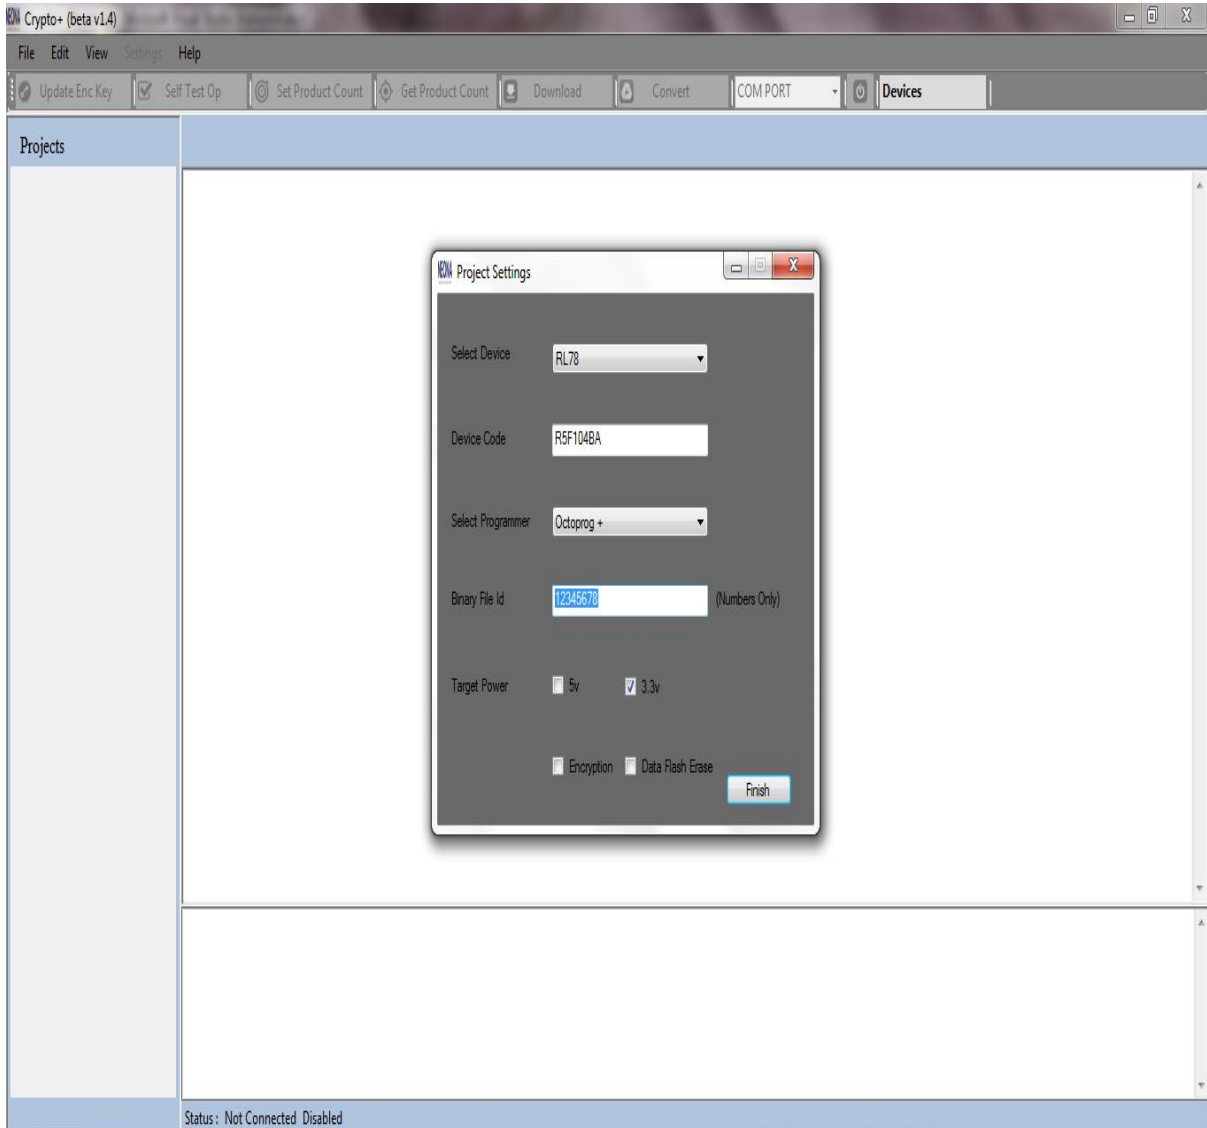

Figure 2.17
STEP 8: Enter Binary File Id- Enter your 8-digit BINARY FILE ID in the Binary File Id field. File ID consists of only numbers as shown in figure 2.17.